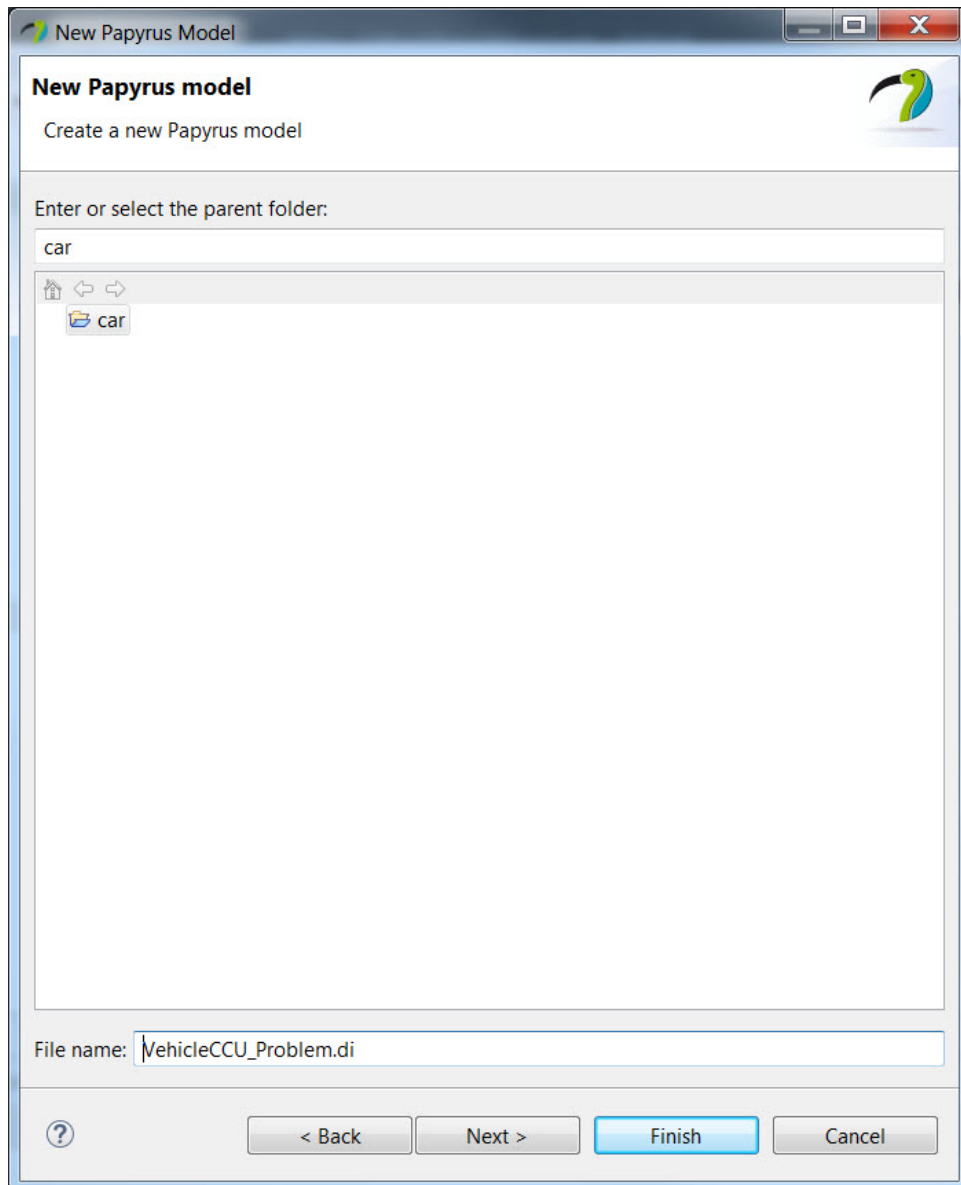

Figure 5: New Model Dialog
5. When the *New Papyrus Model* dialog appears, click on the *car* folder to choose this as the parent folder and enter *VehicleCCU_Problem* in the file name box and click **Finish** (see figure 5).